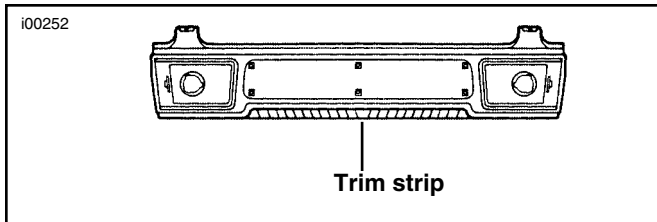

Figure 5. Applying Trim Strip
12. Mount housing with holes aligned in tour-pak. See Figure 5. If tour-pak has Harley-Davidson decal at backside, which partly shows outside of lamp housing, remove paper from back of solid black trim strip. Mount trim strip on tour-pak under lamp housing flush with the two lower edges of housing.